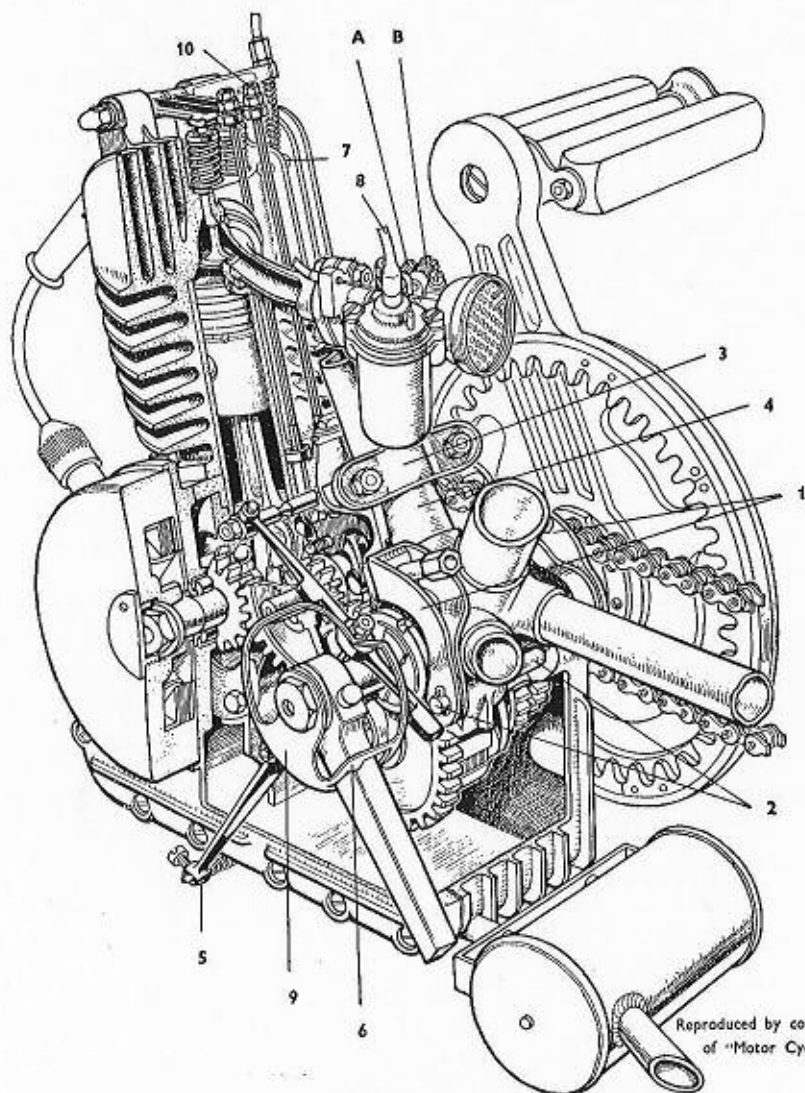
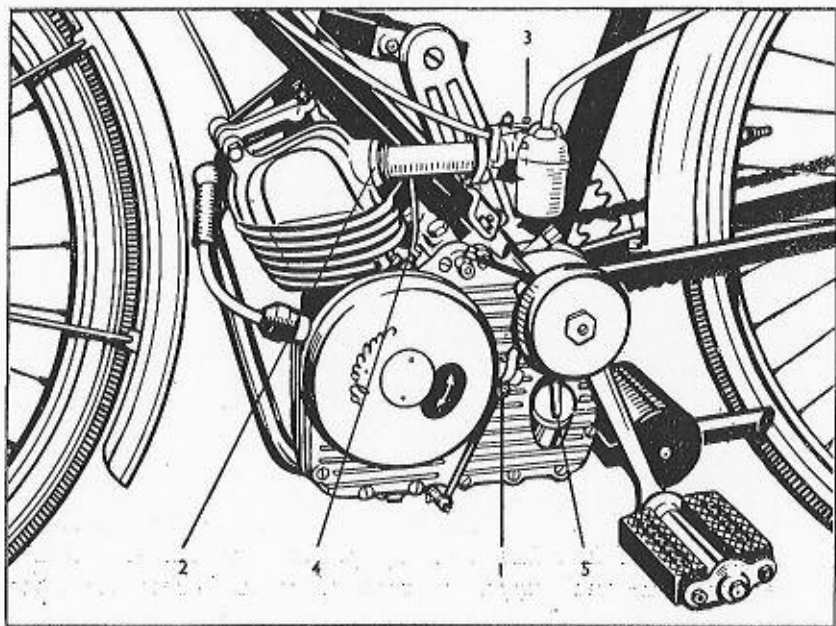

Fig. 1
Fig. 4
4. *Fitting of the Motor to the frame* (Fig. 1).
In order to synchronise the gear change it is necessary to slacken completely the clutch adjusting screw (1) (Fig. 4). With the gear in neutral and the left pedal down, thread the Bowden wire into the eyelet of the clutch lever (5) (Fig. 1) and pull until the two contacting parts are about $5/32$ " from the pre-selector bell-shaped cam. The Bowden wire should then be locked with the screw (5) (Fig. 1). The screw (1) (Fig. 4) is then adjusted to give $\frac{1}{8}$ " play at Handlebar Lever. (See Maintenance Page 14). With the left pedal forward the low gear will automatically be engaged by actuating the clutch lever.
(b) The carburettor should be perfectly level. Its position can be corrected by loosening the locking ring (2) (Fig. 4), which locks the induction tube to the engine. Fit the Bowden cables which are supplied:
1. To the carburettor, the Bowden wire to the throttle is threaded in the hole of the little thimble on the lever of the carburettor throttle and locked with the screw (3) (Fig. 4).
2. The Bowden wire for the valve lifter is fixed on the top part of the cylinder head with a small nipple (7) (Fig. 1). Note that the operation of the valve lifter control is 'inverse', that is, the Bowden wire is fixed while the casing does the 'pushing', therefore, do not tape the casing too tightly to the bicycle frame. For neatness the casing can be passed through a small piece of metal tubing or sleeve, 1" long, and this sleeve can then be neatly taped to the down-bar, together with the clutch and throttle Bowden control casings. It is recommended to oil or grease the inner cable of all Bowden controls before fitting, thus ensuring smooth and long life service.
(c) Fit the plastic petrol tube to the petrol tap and to the carburettor (8) (Fig. 1). (For easy fitting dip ends of tube in hot water for a few seconds). The pipe may be secured alongside the seat-bar with tape.
bulb should be fitted to the rear lamp. The bicycle headlight wire should be secured to the insulated terminal (4) (Fig. 4). Check that engine is in good electrical contact with the bicycle frame, also the headlamp bracket. About twelve watts are available from the flywheel generator, sufficient for bright headlight and tail light illumination.
Lubrication: Every motor is delivered dry; before it is started unscrew the plug on the left side of the engine (5) (Fig. 4), fill the crank case with one pint of motor oil, as stated in the specifications on page 16.